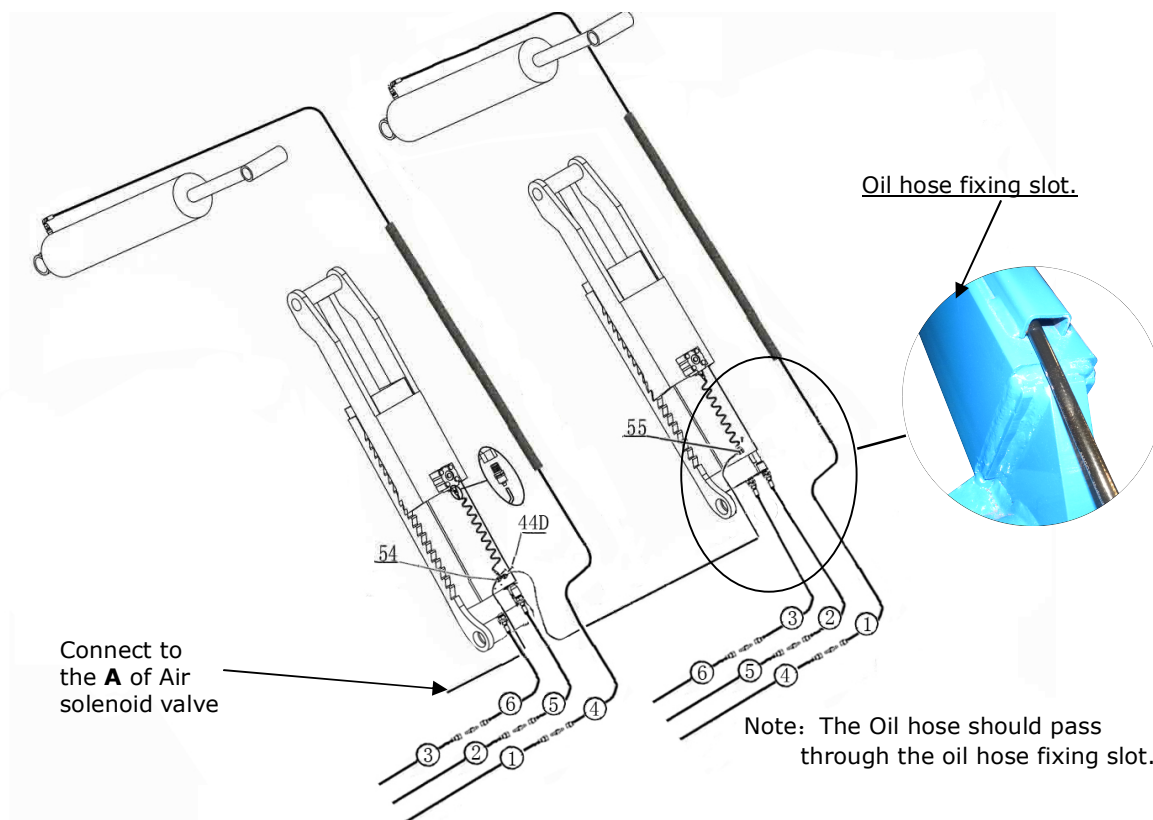

Fig. 24
2.2 Control cabinet installed in the right of the car in direction (**See Fig. 24**).